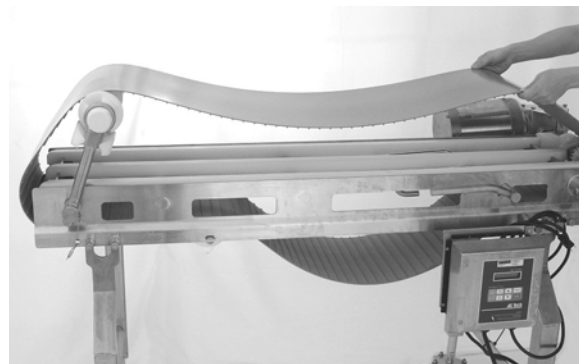

Figure 40
3. Lift up on the belt (**Figure 40**).